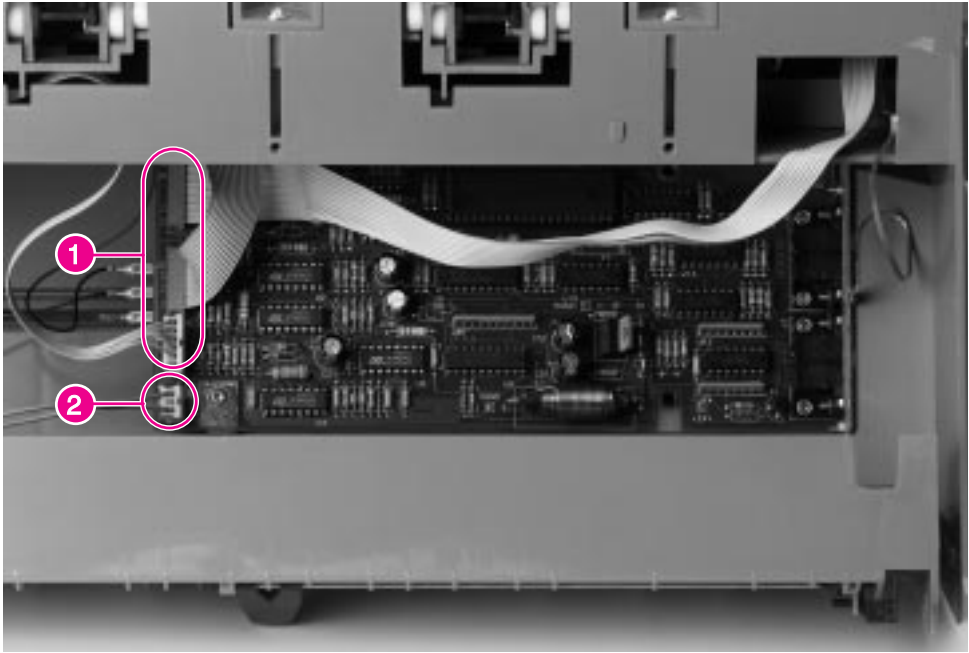

Figure 6-84 Stapler Controller PCA (2 of 3)
- 4 Unplug the cables that are connected to the PCA. Identify their color and size and the ground cables (see figure 6-84, callouts 1 and 2).
- 6 Disconnect the 2 cables in the hinge containing cables from the Stapler Controller PCA (see figure 6-84 on page 253, callout 2).